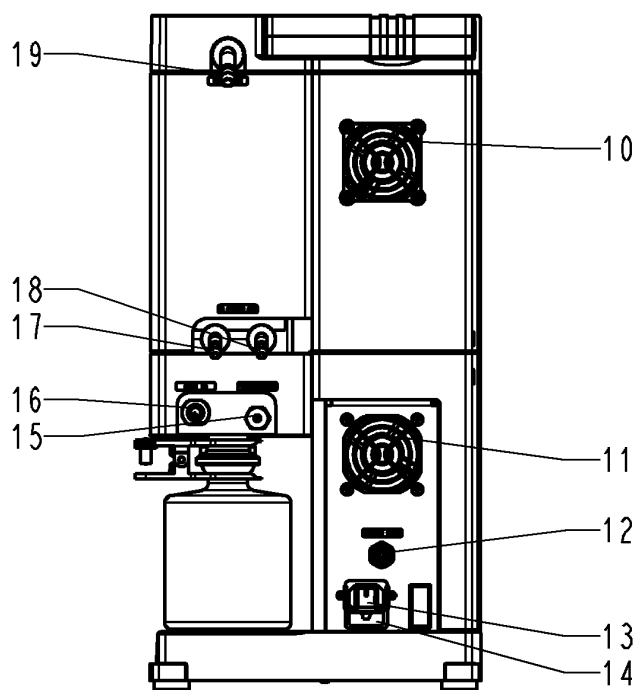
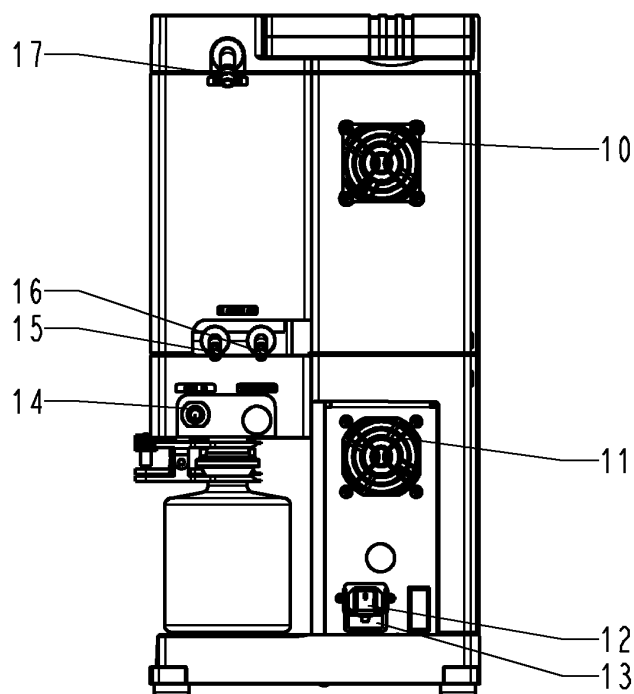
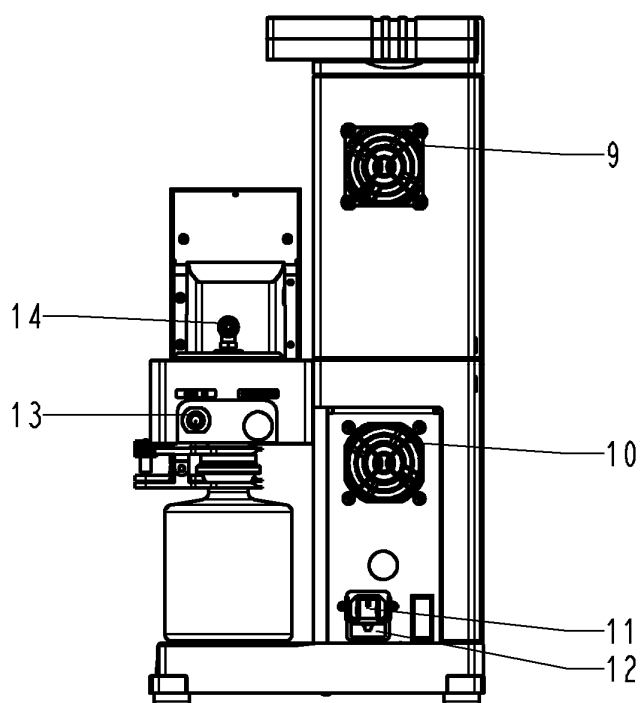

Fig. 4: Vacuum pump system SEM950
Fig. 5: Vacuum pump system SH950
Fig. 6: Vacuum pump system SR950
Collection flask (Fig. 4/7) collects on the suction side of the pump particles and drops that were, contrary to the requirements of the pump, suctioned from the vacuum chamber. The collection flask is coated (implosion protection) and fastened to the vacuum pump system via a flask clip (5).
Collection flask (Fig. 5/7) collects on the suction side of the pump particles and drops that were, contrary to the requirements of the pump, suctioned from the vacuum chamber. The collection flask is coated (implosion protection) and fastened to the vacuum pump system via a flask clip (5).
Collection flask (Fig. 6/6) collects on the suction side of the pump particles and drops that were, contrary to the requirements of the pump, suctioned from the vacuum chamber. The collection flask is coated (implosion protection) and fastened to the vacuum pump system via a flask clip (4).
The gas ballast valve can be opened and closed via the gas ballast switch (Fig. 2/6, p. 13 or Fig. 4/4, p. 17, Fig. 5/4, p. 19 and Fig. 6/3, p. 21):
- Installing the collection bulb Install the collection bulbs (Fig. 2/8 and 9, p. 13 or Fig. 4/6 and 7, p. 17, Fig. 5/6 and 7, p. 19 and Fig. 6/5 and 6, p. 21) with the bulb clips (Fig. 2/7, p. 13 or Fig. 4/5, p. 17, Fig. 5/5, p. 19 and Fig. 6/4, p. 21). The bulbs and clips are included as loose parts.
1. Connect the vacuum chamber to the gas inlet's hose connector (Fig. 2/19, p. 13 or Fig. 4/16, p. 17, Fig. 5/14, p. 19 and Fig. 6/13, p. 21, for hose inside diameter of 10 mm). For this, vacuum tubing must be used.
2. Connect hose to high-performance condenser in order to discharge gas exhaust (Fig. 2/22, p. 13 or Fig. 4/19, p. 17, Fig. 5/17, p. 19 and Fig. 6/14, p. 21, for hose inside diameter of 10 mm).
Attach coolant feed and return to high-performance condenser (Fig. 2/20 and 21, p. 13 or Fig. 4/17 and 18, p. 17 and Fig. 5/15 and 16, p. 19, for hose inside diameter of 8 mm).